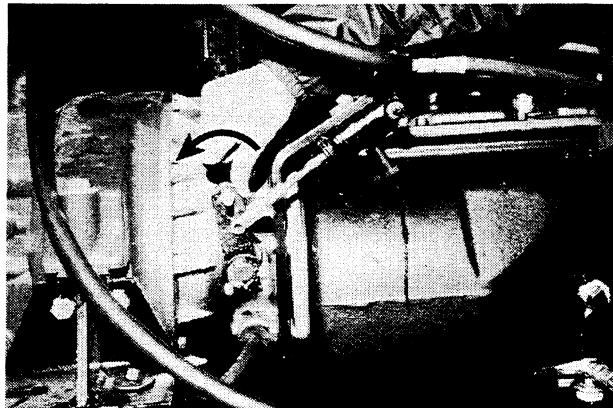
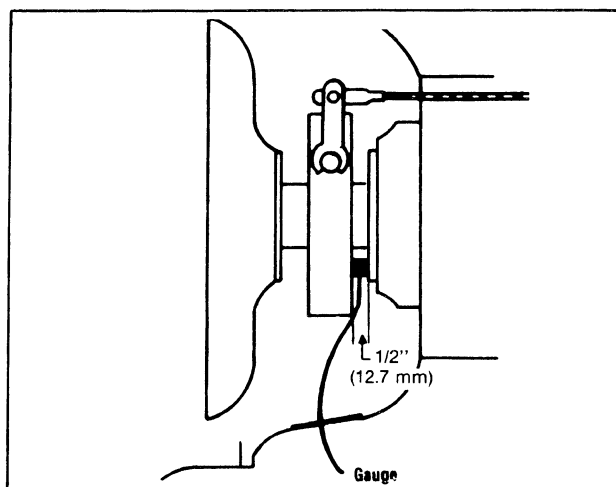

Figure 4:
Figure 5:
5. On the hydraulic actuated clutch, rotate clutch outer release arm forward (CCW) (on the mechanical clutch "pull up" on the lever) by hand until a slight resistance is felt to remove any slack in the release bearing carrier (A-Fig. 4). At this point, the distance between the rear face of the release bearing assembly and the front face of the transmission brake disc (with brake disc rearward against front transmission bearing cap) must be $\frac{1}{2}$ inch (.50 inch) (12.7 mm) (Fig. 5). If the distance is not correct, proceed to the next step.